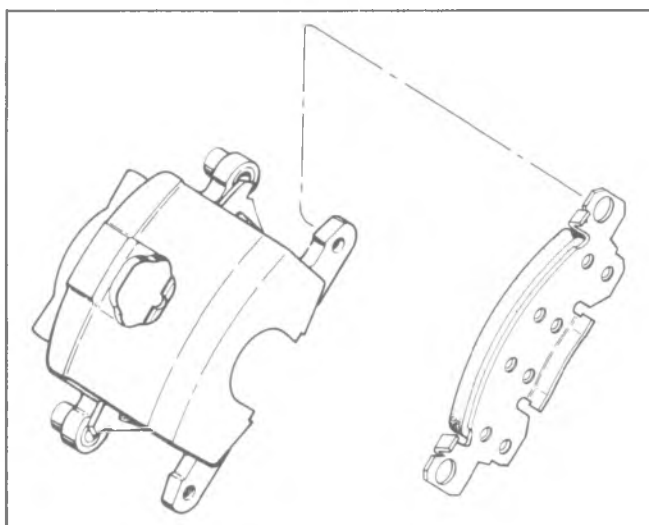

Fig. 5-28- Installing Outboard Shoe
5. Position the outboard shoe in the caliper, with the ears at the top of the shoe over the caliper ears and the tab at the bottom of the shoe engaged in the caliper cut-out (see fig. 5-28). Be sure to note right and left brake shoes. 6. Position the caliper over the rotor, lining up the holes in the caliper ears with the holes in the mounting bracket.